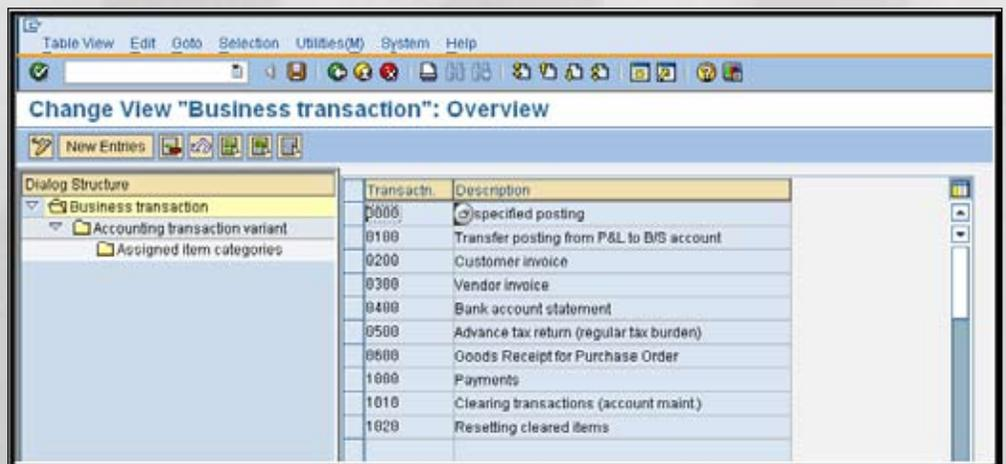

Figure 6: Creating a New Business Transaction Variant
- Define Business Transaction Variants – It is important to understand what a business transaction variant is before you create a new one. A business transaction is assigned a business transaction variant, which contains the information necessary for document splitting. Some standard examples are shown in Figure 6: “0200” for customer invoice and “0300” for vendor invoice, etc. Business transaction variants consist of item categories, each of which contains information relevant to the splitting process. SAP provides a single standard business transaction variant (0001) that contains all the standard item categories. You cannot create new business transactions, but you can create new business transaction variants. To do so, you would need to carry out the configuration activity shown in Figure 6.
Once you are on the screen shown in Figure 6, you need to select the desired business transaction and then double-click on the “Accounting transaction variant” node in the Dialog Structure. Let’s say you want to create a business transac-